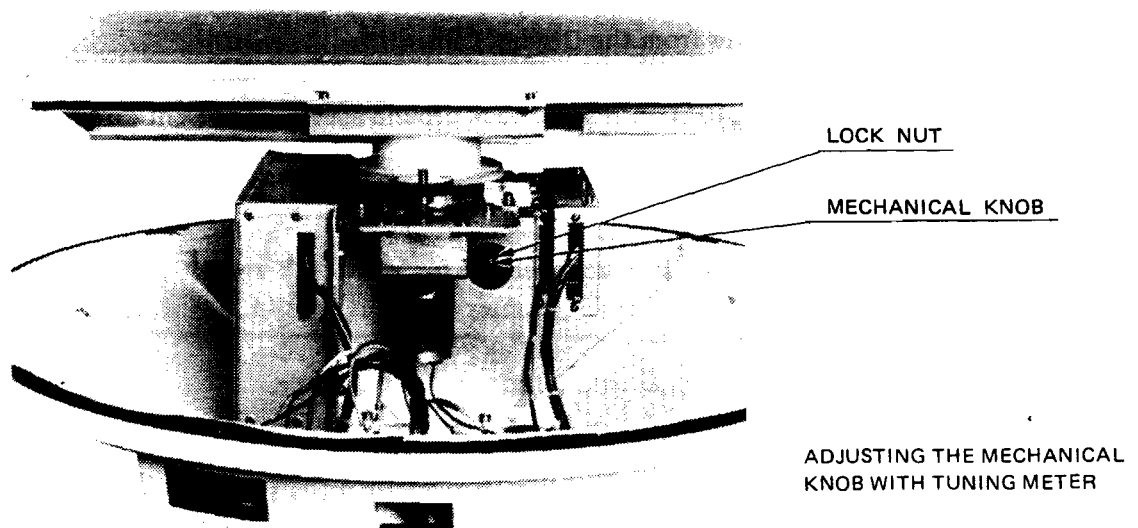

Fig. 5-1 GUNN OSCILLATOR TUNING
1) Gunn Oscillator tuning (See Fig. 5-1)